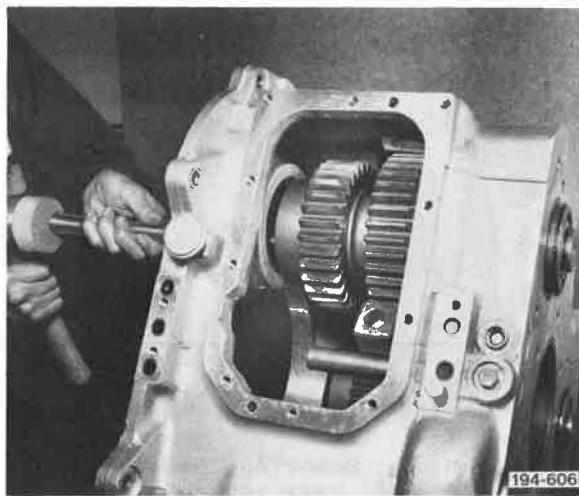

Figure 73. Driving Countershaft Rearward
14. Drive rear countershaft rearward, using a suitable driver, to provide access to rear bearing positioning snap ring. See Figure 73.